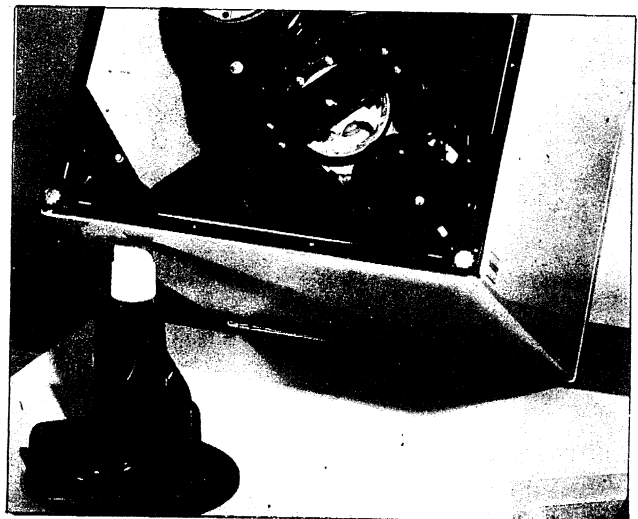
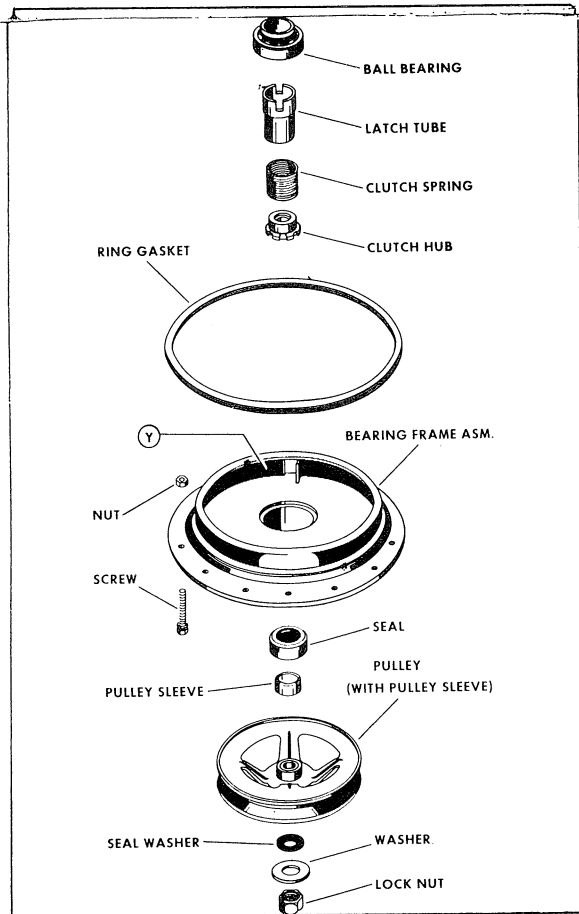

Figure 122
Figure 123
The machine should be placed in a position as shown in *Figure 122* and propped up correctly to prevent damage to the machine or personal injury. Examine around the transmission for evidence of oil leaks other than the bearing frame seal. The agitator should be removed and examined inside of the agitator for signs of oil that will float to the top when water enters the gear case. The following parts as shown in *Figure 123* can be replaced without removing the transmission from the cabinet.
1. A drip cloth should be placed under the working area to prevent damage to the floor from oil. The washer should be layed on its front and the bottom raised about 16". The agitator can be used if some other type of prop is not available, *Figure 122*.
2. Remove pulley nut, the flat washer, seal washer and pulley. The belt will slip off as the pulley is lifted off the shaft. NOTE: With washer in position as shown in *Figure 122* observe the oil level. The oil should cover $\frac{1}{4}$ of the ball bearing. A higher level will indicate some water has entered the gear case. This would necessitate removing the complete transmission from the cabinet for major repairs.
12. Remove seal tool by removing handle from tool head. Before installing pulley, check sealing surface of pulley sleeve for nicks, grooves or scratches. Replace the pulley sleeve when necessary. Reassemble parts using a new seal washer. Make sure that the nut is as tight as possible. Use *Figure 123* as a guide for correct assembly.